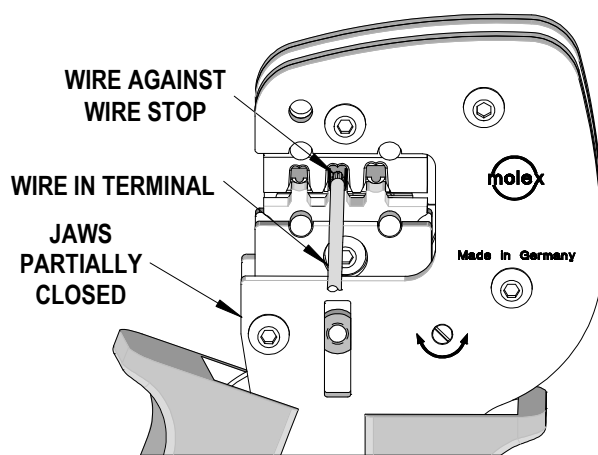

Figure 5
8. Gently touch the end of the wire against the wire stop in the locator. See Figures 5 & 6